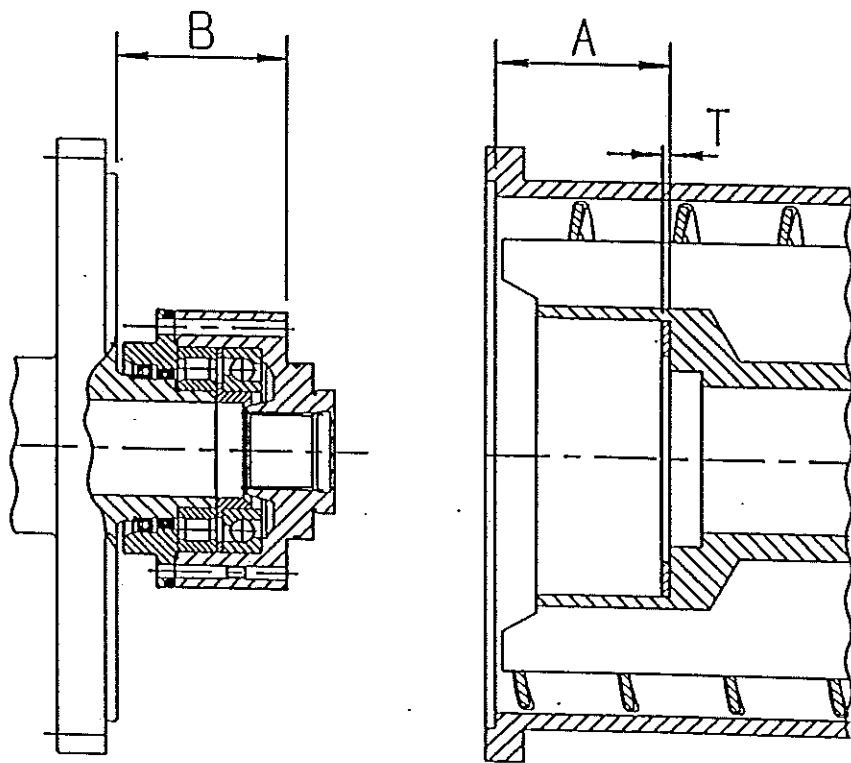

Figure 4.4.2
Optional! Decanters whose ring on the end of the protecting tube was removed: Refer to Figure 4.4.2 for identification of parts. Apply silicone to one of the joining surfaces between ring [1] and protecting tube. Then fit the ring [1] and secure with the four pointed screws [3], being careful not to tighten them too much
4.4.3 Axial Adjustment of Conveyor (Fig. 4.4.2)